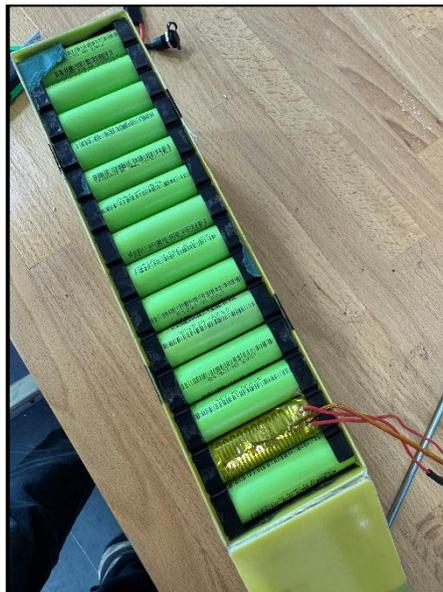

Figure 1
- The heating element was placed on one cell of each pack to engage thermal runaway. Figure 1 illustrates the same.